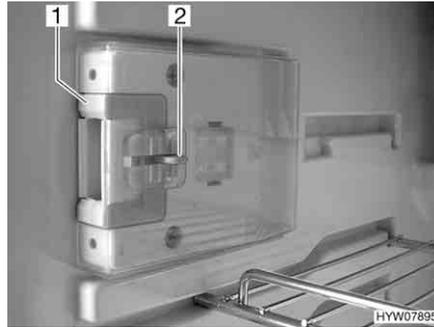
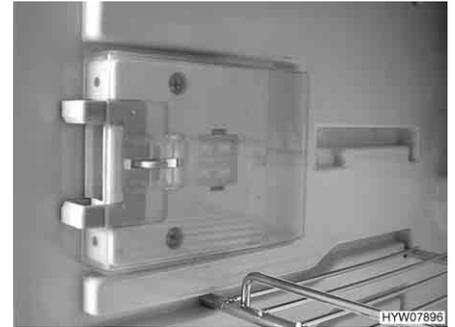

Fig. 213 Locking device in normal position
Fig. 214 Locking device in ventilation position
- Press down the unlocking device (Fig. 213,2).
- Push locking device (Fig. 213,1) forwards (Fig. 214).